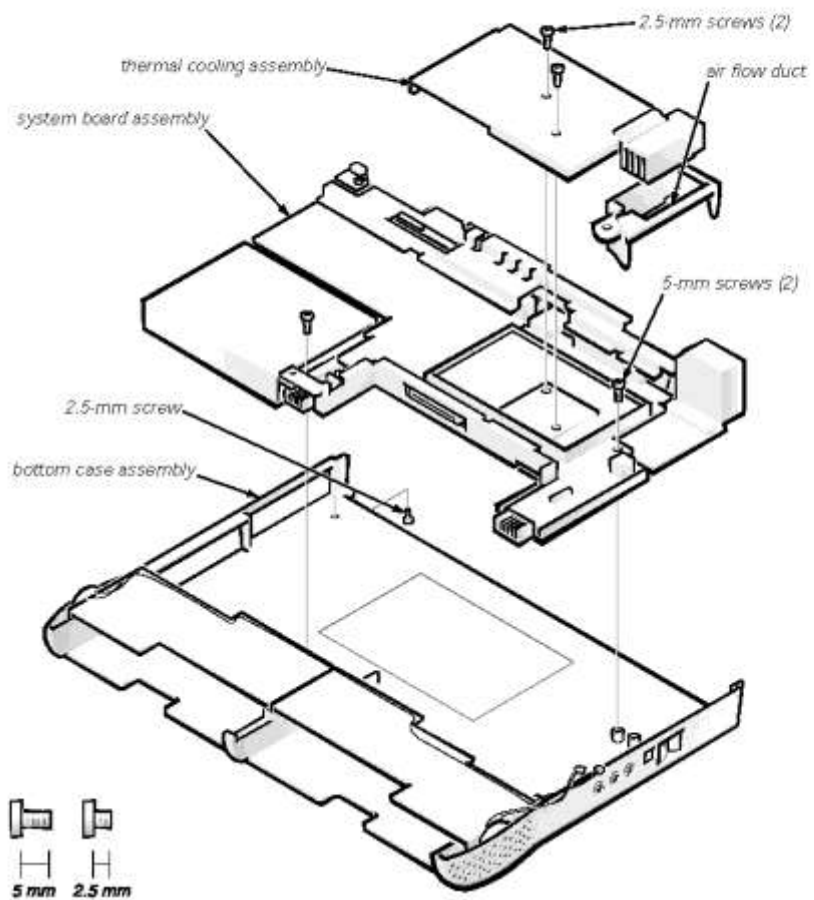

Figure 4-30. System Board Assembly Removal
9. Remove the following two screws from the system board assembly (see Figure 4-30):